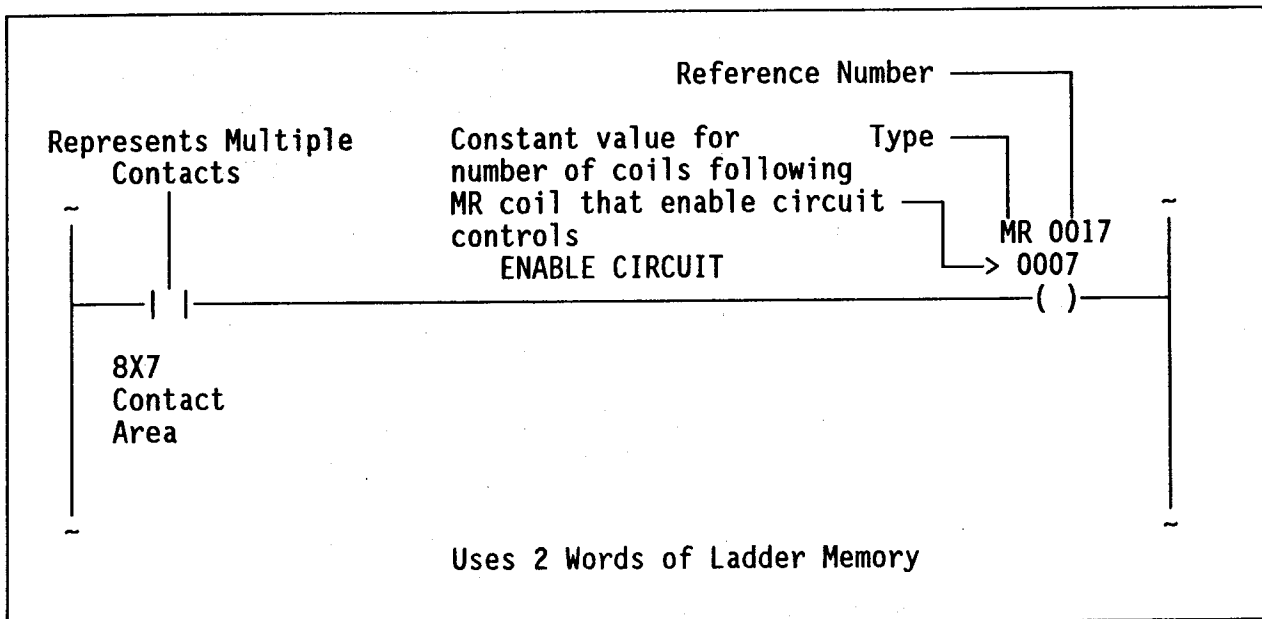

Figure 1. Master Control Relay (MR)
The Master Control Relay (MR) function is a powerful programming tool. This function provides an "internal OFF" operation, disabling all or part of the programmed reference ladder diagram. MR function symbology is shown in Figure 1.